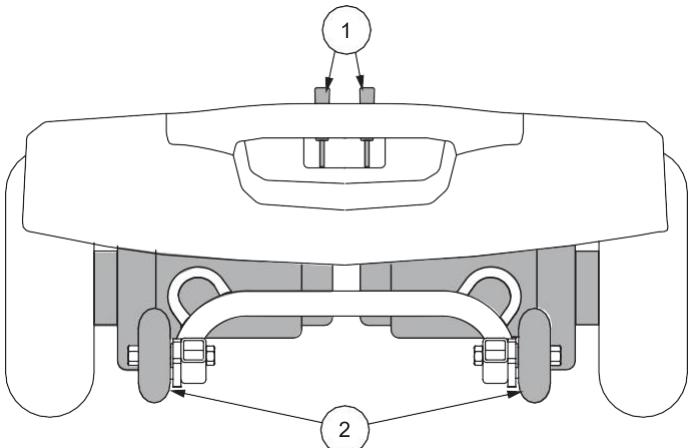

Figure 8. Rear Components
For your convenience, your travel scooter has a manual freewheel lever on the motor. Manual freewheel levers enable you to disable the drive system in order to maneuver the Travel Scooter manually. See figure 8.
1. Locate the levers on the rear section of the scooter. See **figure 8**.